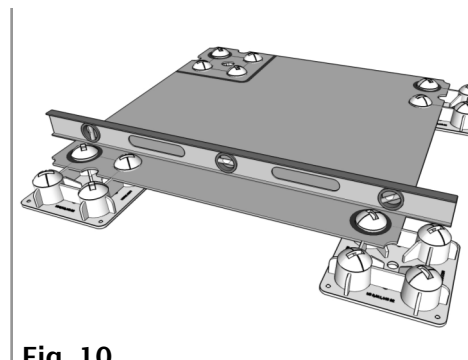
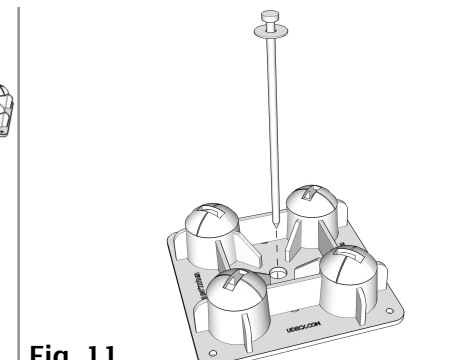

Fig. 10
Fig. 11
5. Level each additional Pier (A) to an adjacent Pier (A) (Fig. 10) and install Anchor Spikes (D). (Fig. 11)